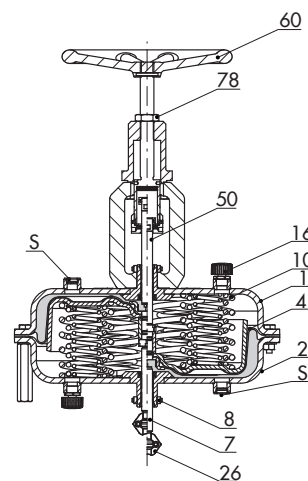

Fig. 11: Type 3271 with 750v2 cm² and additional handwheel
- **Type 3271 or Type 3277 · Additional handwheel** for actuators with 175v2 to 750v2 cm² actuator areas (Fig. 6 and Fig. 11)